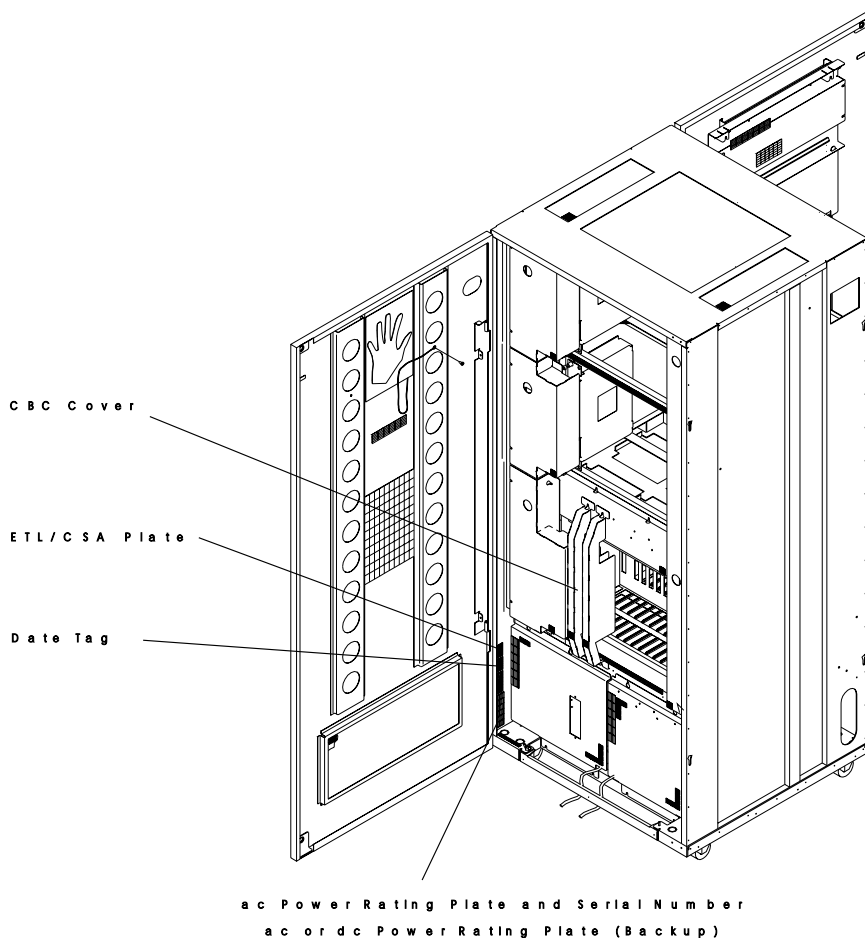

Figure 2-1. 3746-900 Power Rating Plate (Rear View)
- Step 3. \_\_\_ Open the rear door. Locate the power rating plate (see Figure 2-1). **Check that the 3746-900 Basic AC power and the Optional AC power rating plate data are consistent with the customer's available voltage AC and the frequency.**
- Step 5. \_\_\_ Check that the serial number stamped on the frame is the same as on the serial number plate (see Figure 2-1 for location).
2. \_\_\_ Remove the CBC covers (see Figure 2-1 on page 2-2).